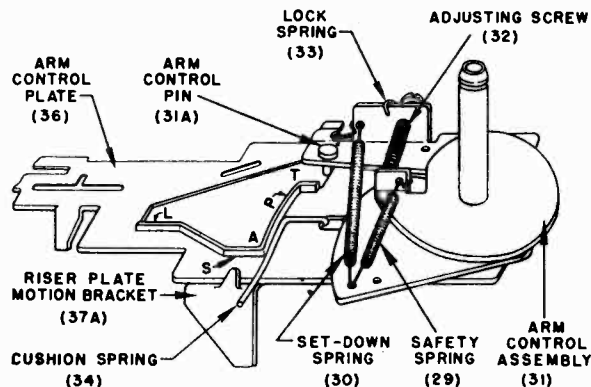

FIGURE 2.
(See Figures 2, 5, and 6.)
While a record is playing and as the pickup arm moves toward the center of the record, the arm control pin (31A) on the arm control assembly (31) moves along the portion of the arm control track (36B) as indicated at "P", figure 2. As the record reaches the pickup or trip point, the pin reaches point "T" on the track. As it moves into the recessed position in which it is shown in the illustration, it permits the trip spring (35) to pull the arm control plate (36) forward towards the centerpost (27). As the arm control plate is drawn forward, the stop tab (36A) on the arm control plate (36) is withdrawn from behind the stop bracket (43A) on the eccentric cam (43). The cam, which no longer is held in place by the stop tab (36A), is pulled over by the eccentric cam spring (44) until the rubber tire makes contact with the knurled roller (53) on the turntable shaft (28A). This knurled roller, which rotates with the turntable shaft, rotates the eccentric cam. In turn, this forces the riser plate assembly (37) back along its guide rods (51A) away from the centerpost (27). As soon as the riser plate begins to move, the push-off cam and shaft assembly (42) rides along the inclined track (37C) of the riser plate (37). This action causes the push-off cam and shaft assembly (42) to be drawn downward; as a result the pickup arm lift (19) presses down on the arm lift bearing pin (14) causing the pickup arm to be raised clear of the record. Then the riser plate tab (37B) contacts and moves the arm control assembly (31) which, since it is coupled to the pickup arm support assembly (22), carries the pickup arm away from the centerpost and clear of the edge of the turntable. As the riser plate (37) continues to travel further along the guide rods (51A), the riser plate motion bracket (37A) contacts and rotates the push-off cam and shaft assembly (42); as a result, the push-off arm (5), [which is coupled to the push-off cam and shaft assembly (42)] causes the push plate (7C) to drop a record to the turntable.
During the early part of the change cycle, the arm control plate (36) has traveled (in a direction away from the centerpost) until the size change stop (36C) reaches the cam (42B) of the push-off cam and shaft assembly. The distance traveled by the arm control plate (36) will depend on the size of the record being played; the distance is less for a 12-inch setting than for a 10-inch setting. (This is true because the push-off cam (42B) presents its short radius to the size change stop (36C) for the 10-inch setting and presents its long radius to the size change stop for a 12-inch setting.) This variation in distance traveled means that the arm control track (36B) will be in a position closer to the centerpost for the 12-inch setting than for the 10-inch setting. This in turn means that during the change cycle the arm control pin (31A) [whose path is determined by the motion of the arm control assembly (31)] will leave its recessed position, and will ride along the "S" portion of the arm control track for the 12-inch setting and along the "L" portion for the 10-inch setting. (See Figure 2.)
(c) With the changer out of cycle, manually move the arm control assembly (31) outwards as far as it moves freely. In this position, the arm control pin (31A) will be located as indicated at "A" in figure 2.